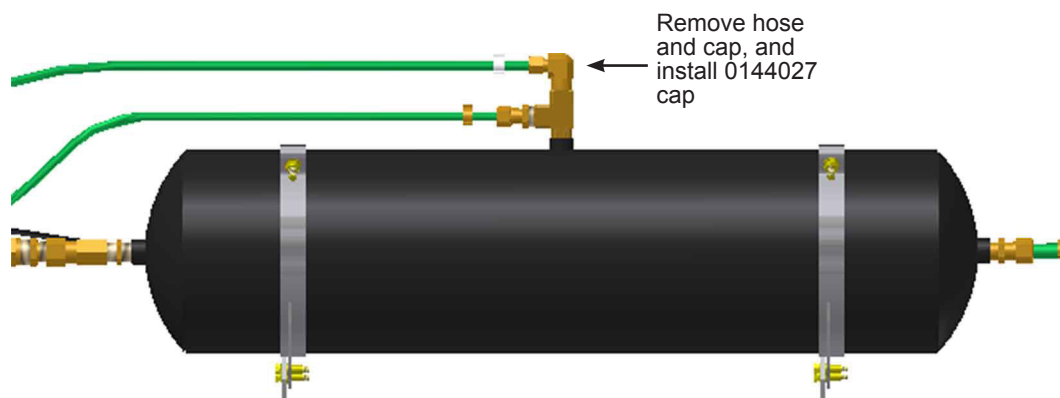

Figure 5 - Primary Reservoir Assembly
- 1.9. Install the 0144027 plug into the connector. See Figure 5.